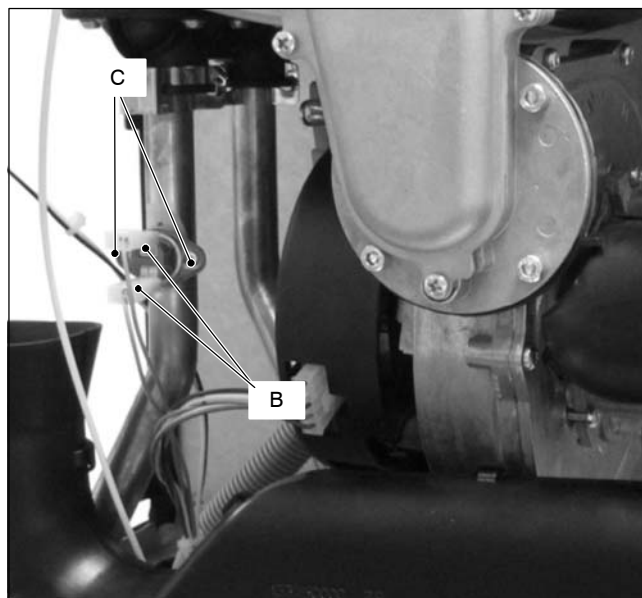

Fig. 19.2
- 2 Disconnect the wiring **B** (detail in Fig. 19.2).